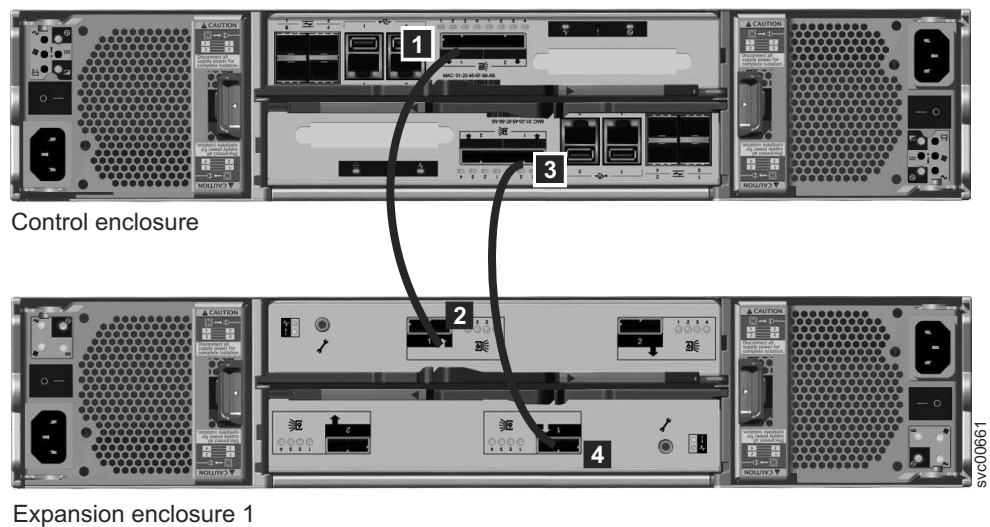

Figure 45. Attaching an expansion enclosure to the control enclosure
2. Attach the SAS cables from the control enclosure to the first expansion enclosure as shown in Figure 45. Remove the protective end covers, if necessary. The first expansion enclosure is below the control enclosure.